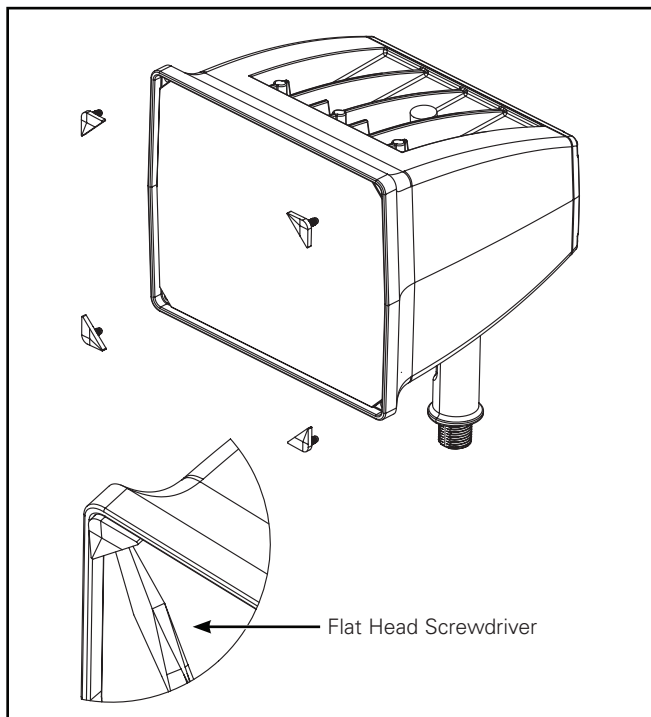
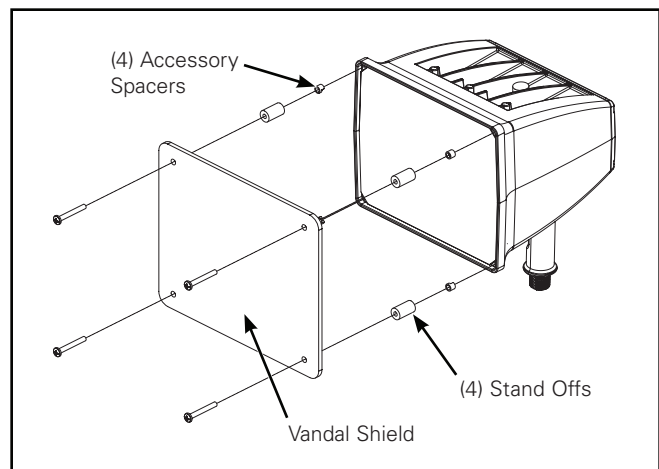

Figure 6.
Figure 8.
2. Remove the existing (4) black clips on the edge of the lens with flat head screwdriver. (Figure 6.)
2. Remove the existing (4) black clips on the edge of the lens (Figure 6.)
3. Align the (4) 7/8" standoffs on top of the (4) accessory spacers.
4. Use (4) 10-24 x 1-1/2" screws to secure vandal shield on top of fixture. (Figure 8.)